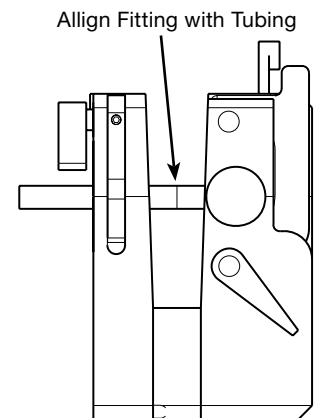

Figure 21 Aligning the Micro-Fit Fitting With the Tubing
8. Align the Micro-Fit fitting with the tubing. See Figure 21.